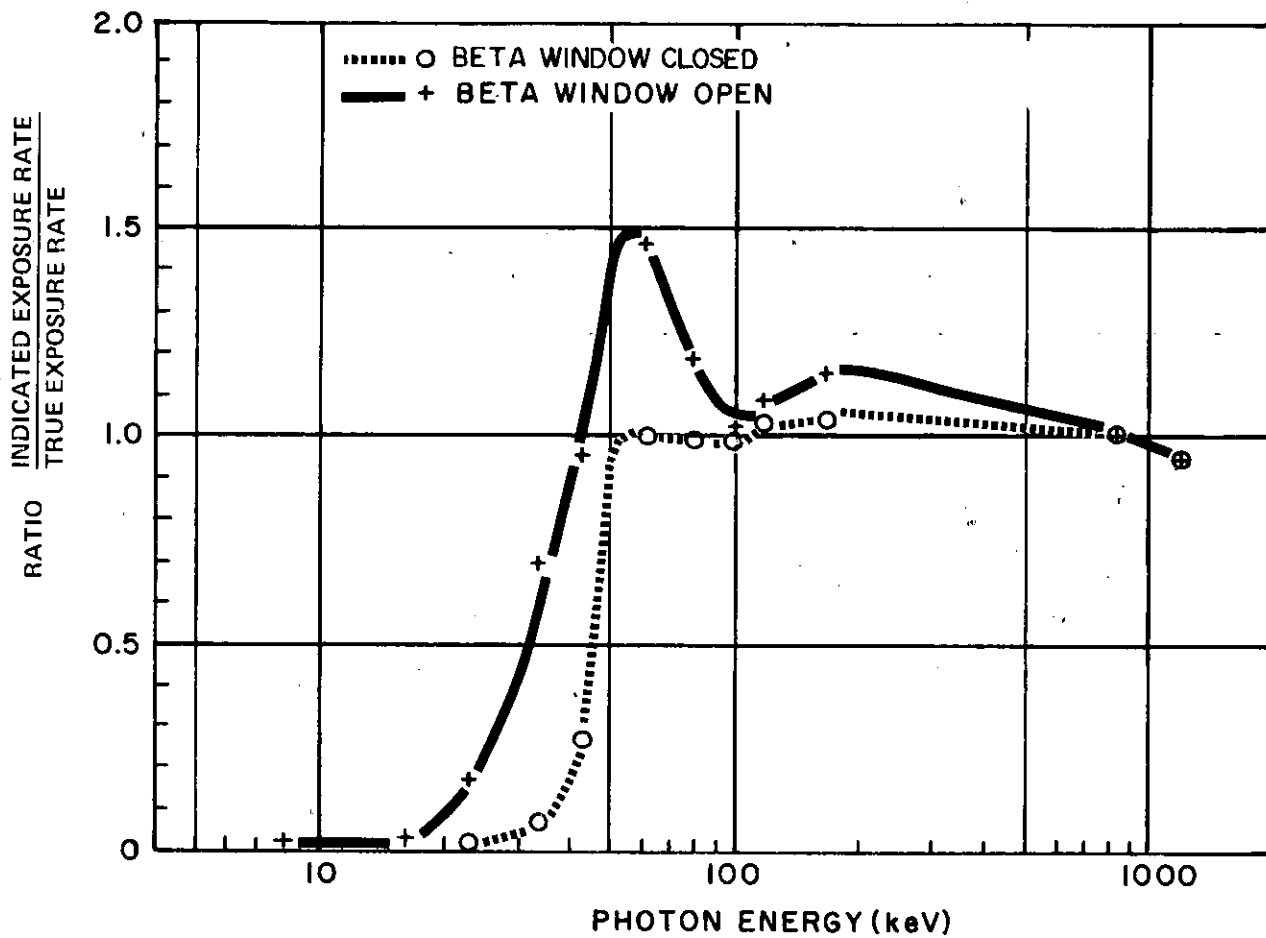

Figure 1-2. Typical Photon Energy Response of the Model PIC-6B
- e. Photon energy Response: Nominal ± 10 percent from 60 keV to 1.3 MeV. See Figure 1-2.